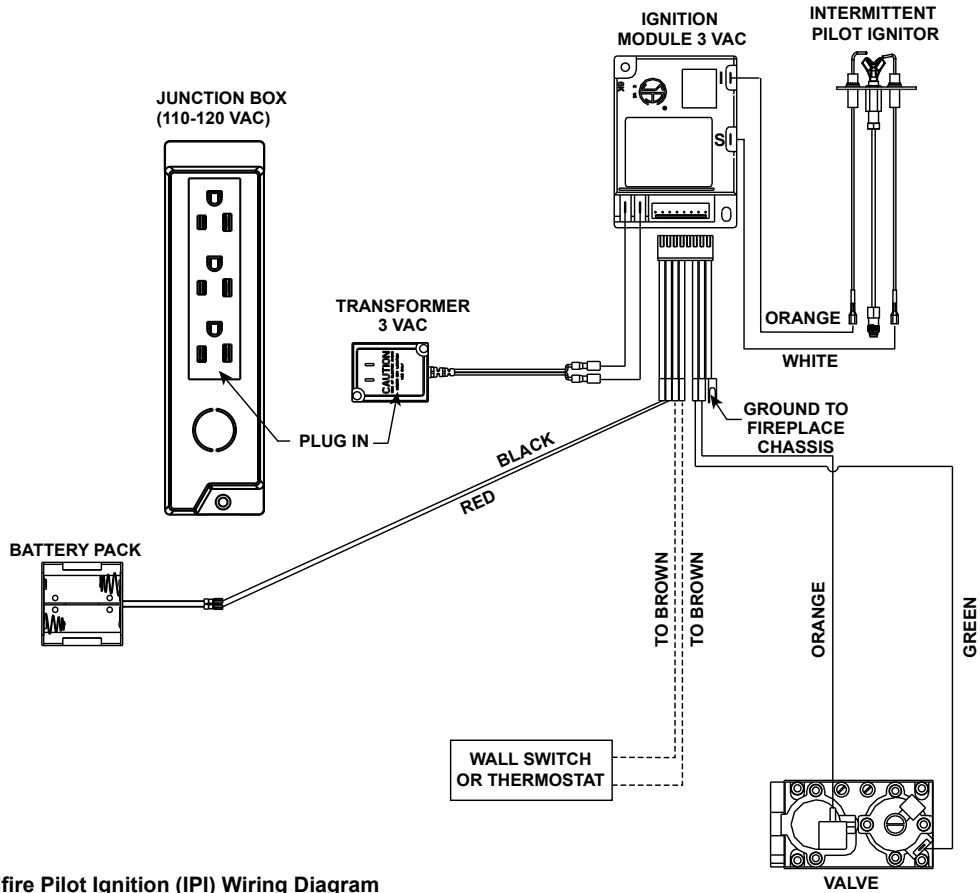

Figure 8.2 Intellifire Pilot Ignition (IPI) Wiring Diagram
- Refer to Figure 8.2 or 8.3, Intellifire Pilot Ignition (IPI) Wiring Diagram.